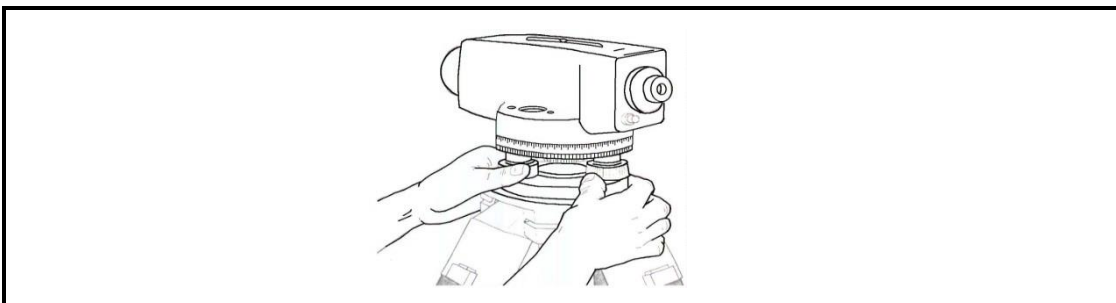

FIGURE 4.7
- 4.7 Answer the following questions with regard to the surveying instrument in FIGURE 4.7: